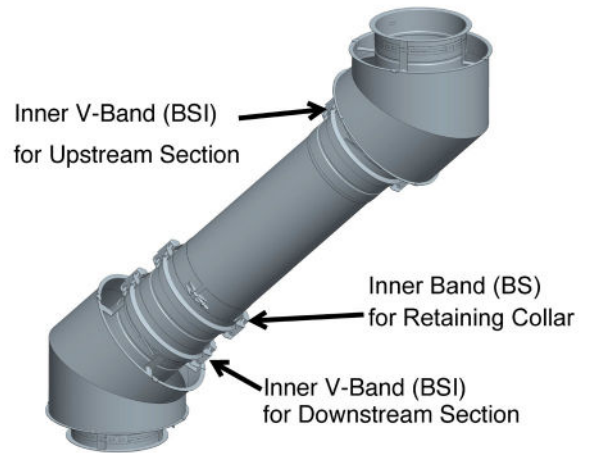

Figure 38 - Step 10-11 - Secure the Retaining Flanged Band
Step 10 -Then install the other V-band (BSI) over these flanges (like regular joint assembly). See **Figure 38**.